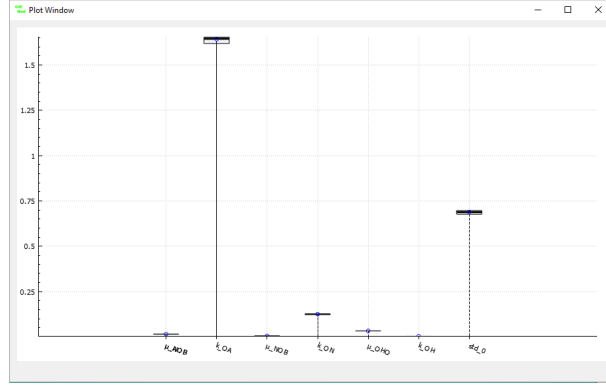

Figure 5.10: Posterior credible interval for all parameters
- To see the 95% credible intervals for all the parameters right-click on **Project Explorer**→**Inverse Modeling**→**Parameters** and select **Plot Percentile data** (Figure 5.10).